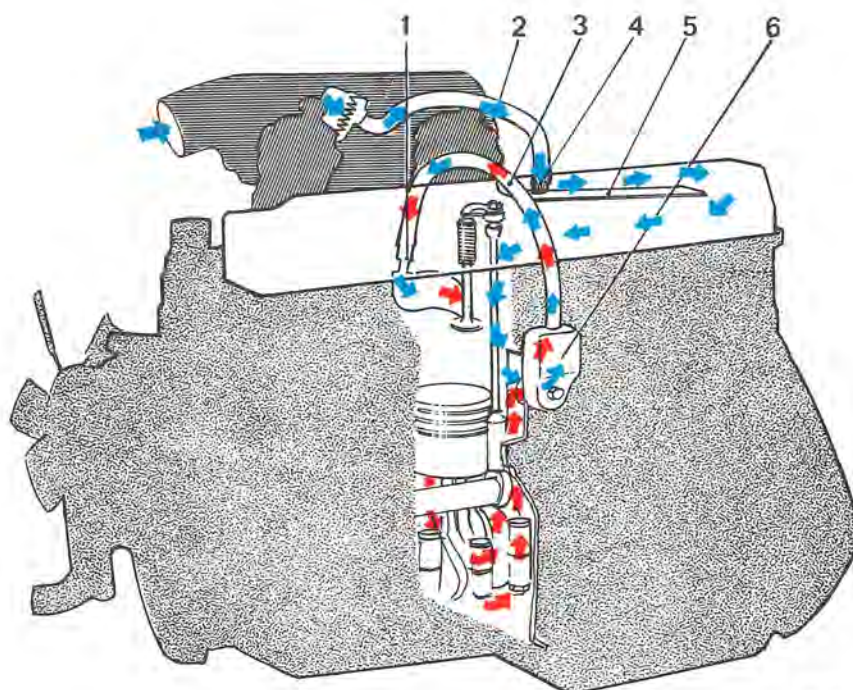

Fig. 2-18. Positive crankcase ventilation
Fresh air is supplied to the rocker arm casing through the air cleaner via the hose (2). A plate in the rocker arm casing (see Fig. 2-18) ensures that the fresh air circulates sufficiently in order to mix with the crankcase gases.